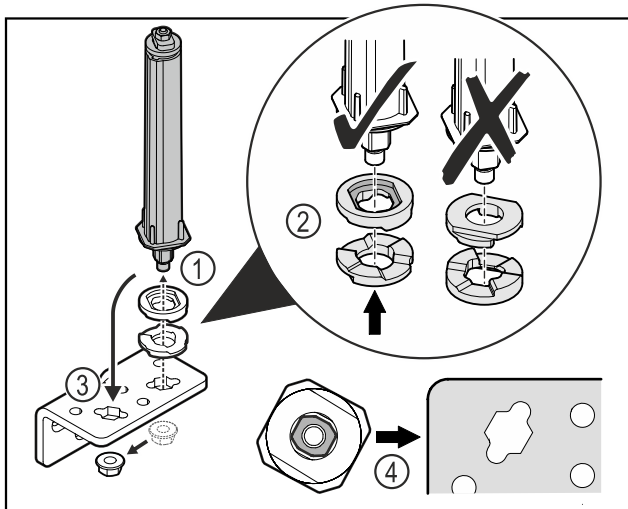

Fig. 29
- ▶ Loosen the nut and remove the door closing system Fig. 29 (1).
- ▶ Observe the correct alignment of the height adjustment washers Fig. 29 (2).
- ▶ Put the door closing system in the hinge and fix in place with the nut Fig. 29 (3).
- ▶ Observe the correct alignment of the door closing system when doing so Fig. 29 (4).